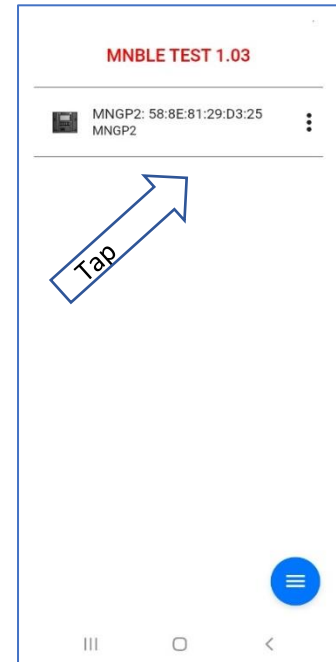

Figure 18
4. FW app will appear as shown in **Figure 18**.